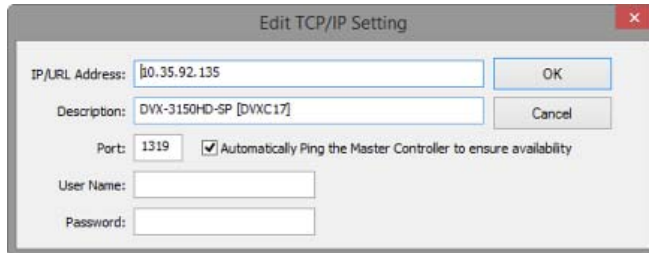

FIG. 140 Edit TCP/IP Setting dialog
1. In the *Communications Settings* dialog, select an address in the *List of Addresses*, and click **Edit** to open the *Edit TCP/IP Setting* dialog (FIG. 140).